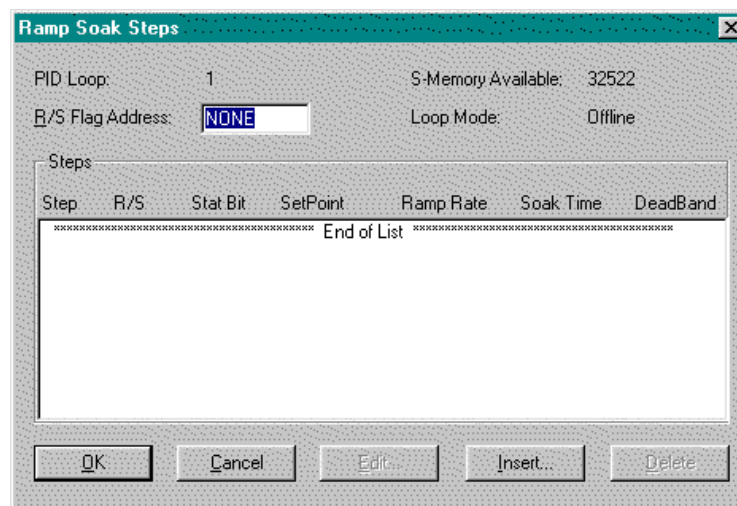

Figure 9.4a
3. To edit, delete, or insert the selected PID Loop number Ramp/Soak, click on the dialog box Ramp/Soak button or use the keyboard to Tab to the Ramp/Soak button and press Enter or (Alt + R). The following dialog box appears (Figure 9.4a).